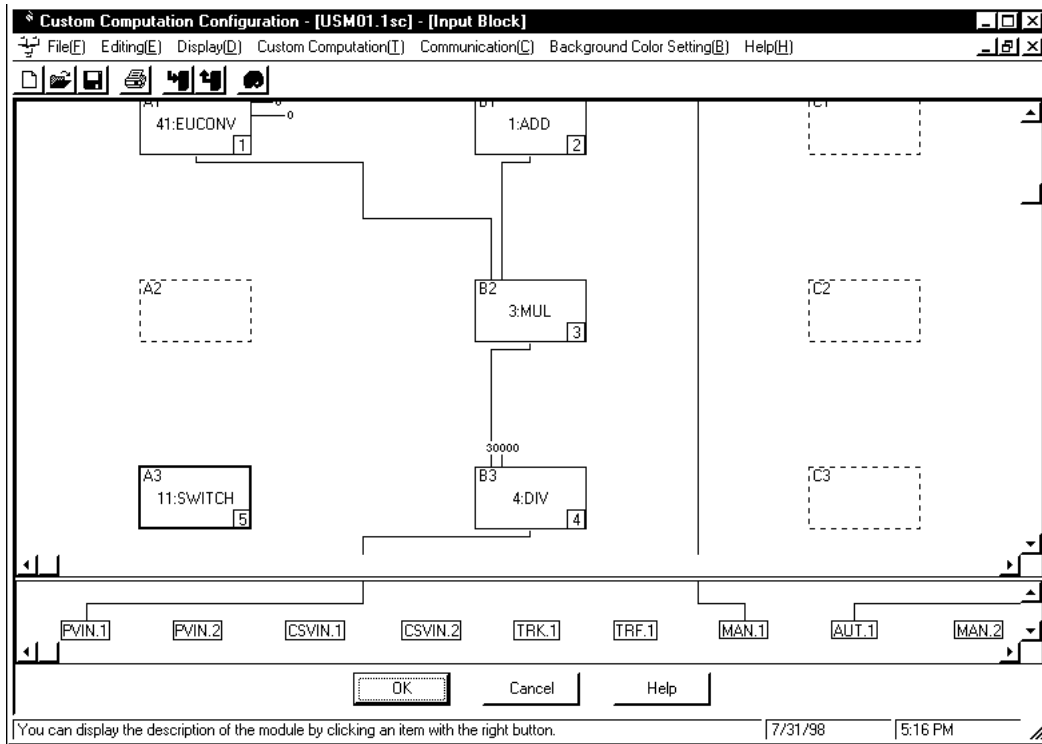

Figure 12.3.3 Example of the [Input Block] Dialog Box where the SWITCH Module Is Registered As the Fifth-run Module
- ③ Click the <Arithmetic Operation> index.
- ④ Double-click <11: SWITCH>. The SWITCH module is registered with the [Input Block] dialog box, as shown in Figure 12.3.3.